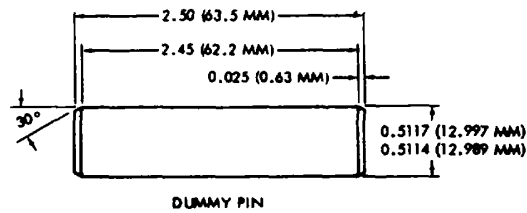

Fig. 6-67. Front carrier assembly bushing installation
(1) Fabricate six dummy pins to dimensions shown in figure 6-67.
(2) Place the front carrier on a work table, rear downward.
(3) Press the bushing from the carrier. Do not scratch or score the bushing bore. [Refer to para 4-5f(l).]
(4) Place the carrier in a press, rear downward.
(5) Apply Loctite Sleeve Retainer No. 601 (or equivalent) to the outer diameter of a new bushing. Install the bushing using tool J-28501. Press the bushing flush to 0.010 inch (0.25 mm) below its adjacent surface (fig. 6-67).
(6) Using a lathe with a four jaw chuck, mount the carrier with surface (A) facing the chuck. Insert the six fabricated dummy pins (fig. 6-67) into the pinion pin holes. Adjust the chuck, centering the car-
(7) Total runout of bushing after boring must not exceed 0.010 inch (0.25 mm). Use figure 6-67 as a guide.